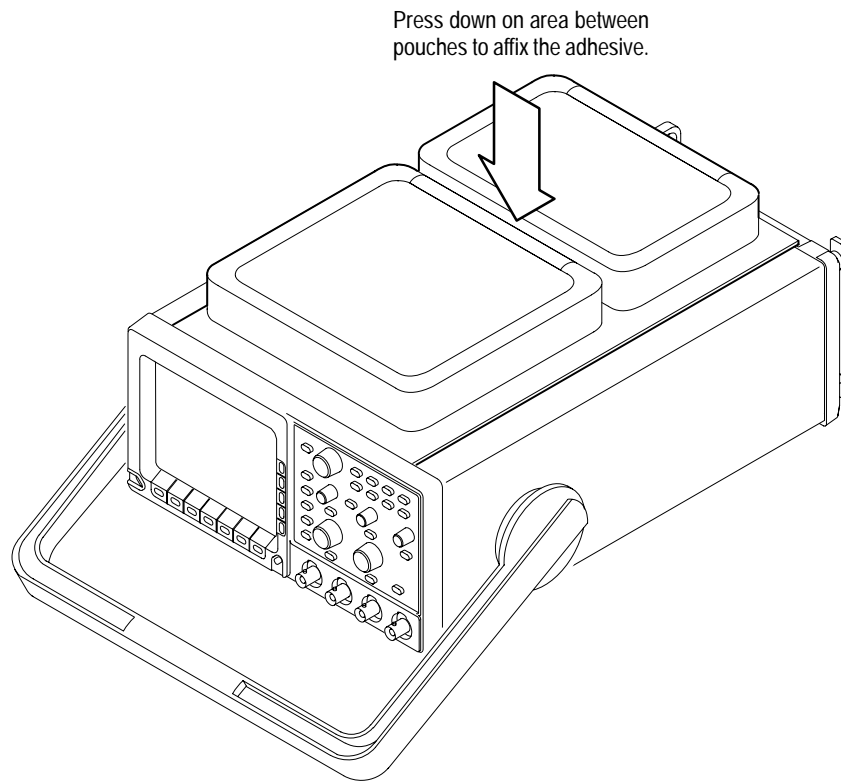

Figure 2: Securing the mounting plate adhesive
4. With the front edge fully inserted, carefully lay the pouch plate down on top of the cabinet and allow the adhesive to stick (Figure 2). Insert your fingers between the pouches and press down on the mounting plate along the entire length of the adhesive — this securely affixes the adhesive.